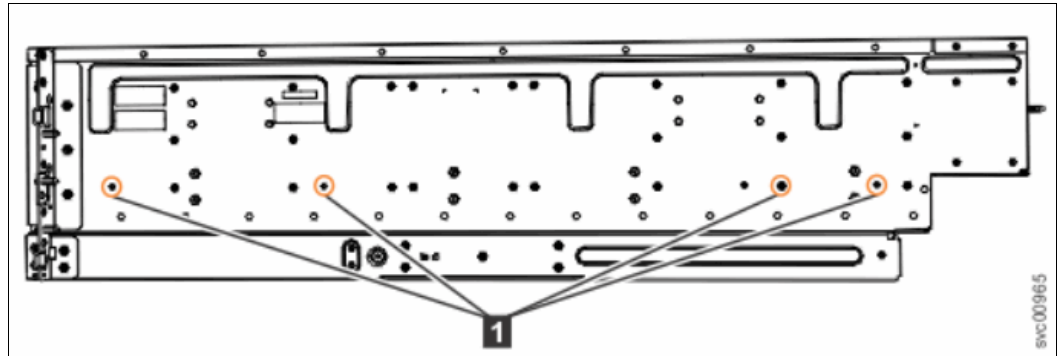

Figure 6-9 Screw locations to attach inner rail member to expansion enclosure
3. Use four M4xL6 screws to attach the inner rail members to the side of the expansion enclosure. Figure 6-9 shows the screw locations.